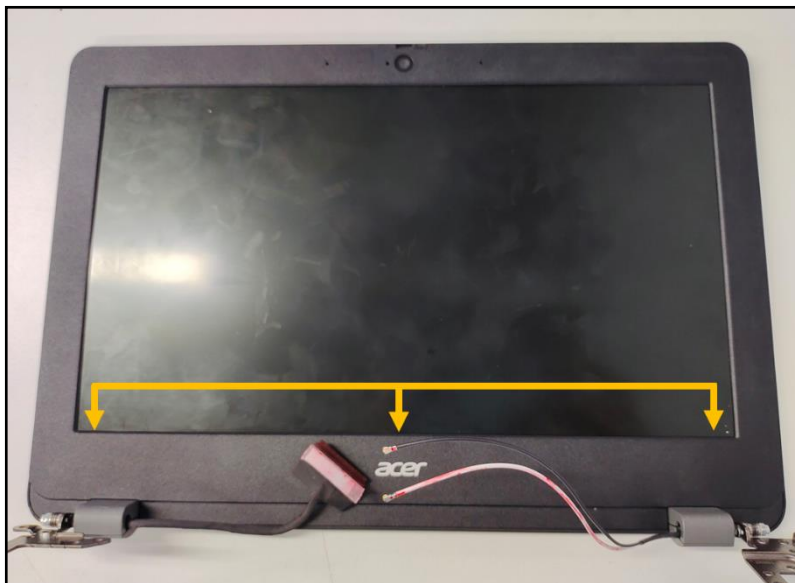

Figure 3-46. LCD Panel Removal
4. Continue prying the remaining latches on the bottom side of the LCD panel as shown in Figure 3-46.